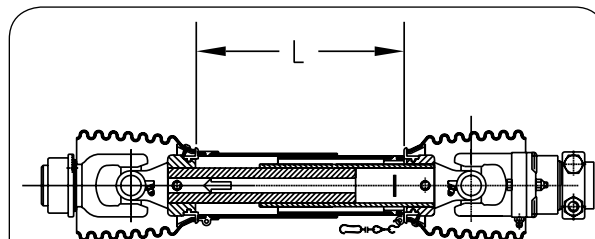

FIG. 4-68
1. Fully collapse PTO shaft and measure length "L" (FIG. 4-68).